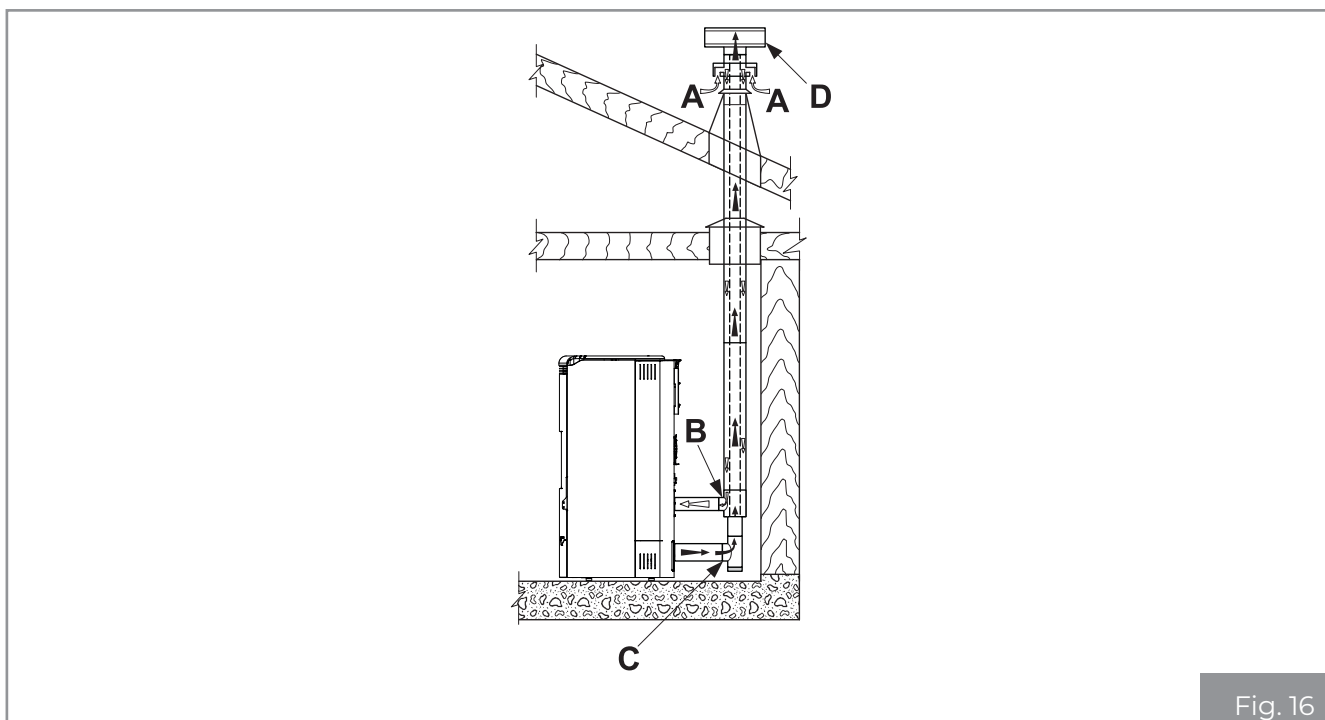
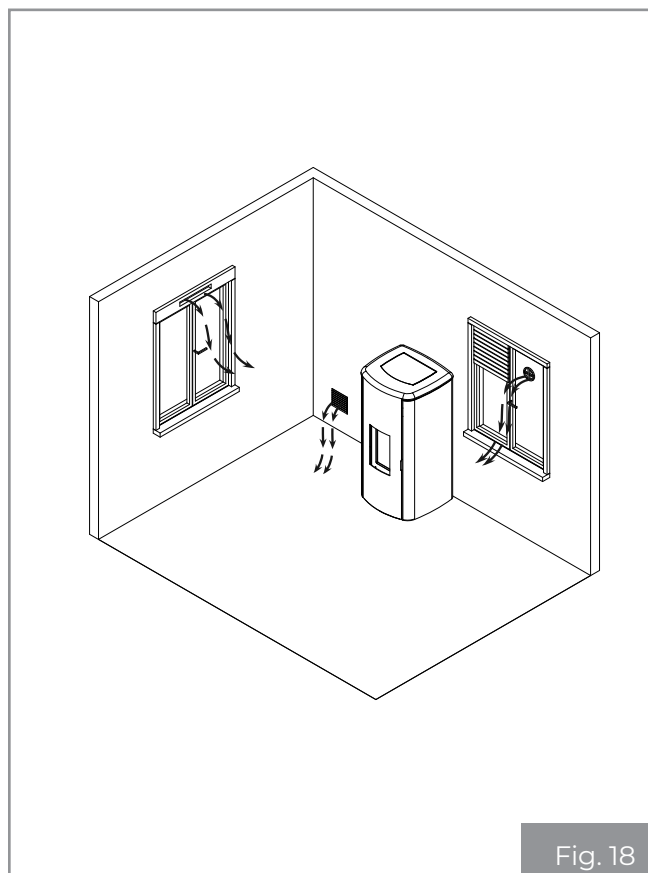

Fig. 16
Fig. 18
- it can come directly from outside with direct connection to the combustion chamber (**Fig. 16**);
- channel the combustion air using a coaxial exhaust pipe to expel the flue gases and extract the air (**Fig. 16** - **A, B** = Air inlet, **C, D** = Flue gas outlet); as a consequence it is not necessary to make a classic air intake in the room.
- connect the combustion air inlet of the appliance to the air intake with a suitable duct (**Fig. 16**).
Create the air intake on the wall (**Fig. 16 and Fig. 18 - PA = Air Intake**), and leave the appliance to withdraw the room air, making sure to connect the section of corrugated pipe on the air inlet pipe, if supplied, fixing it with the strap and folding it slightly downwards to prevent any resonance effects.